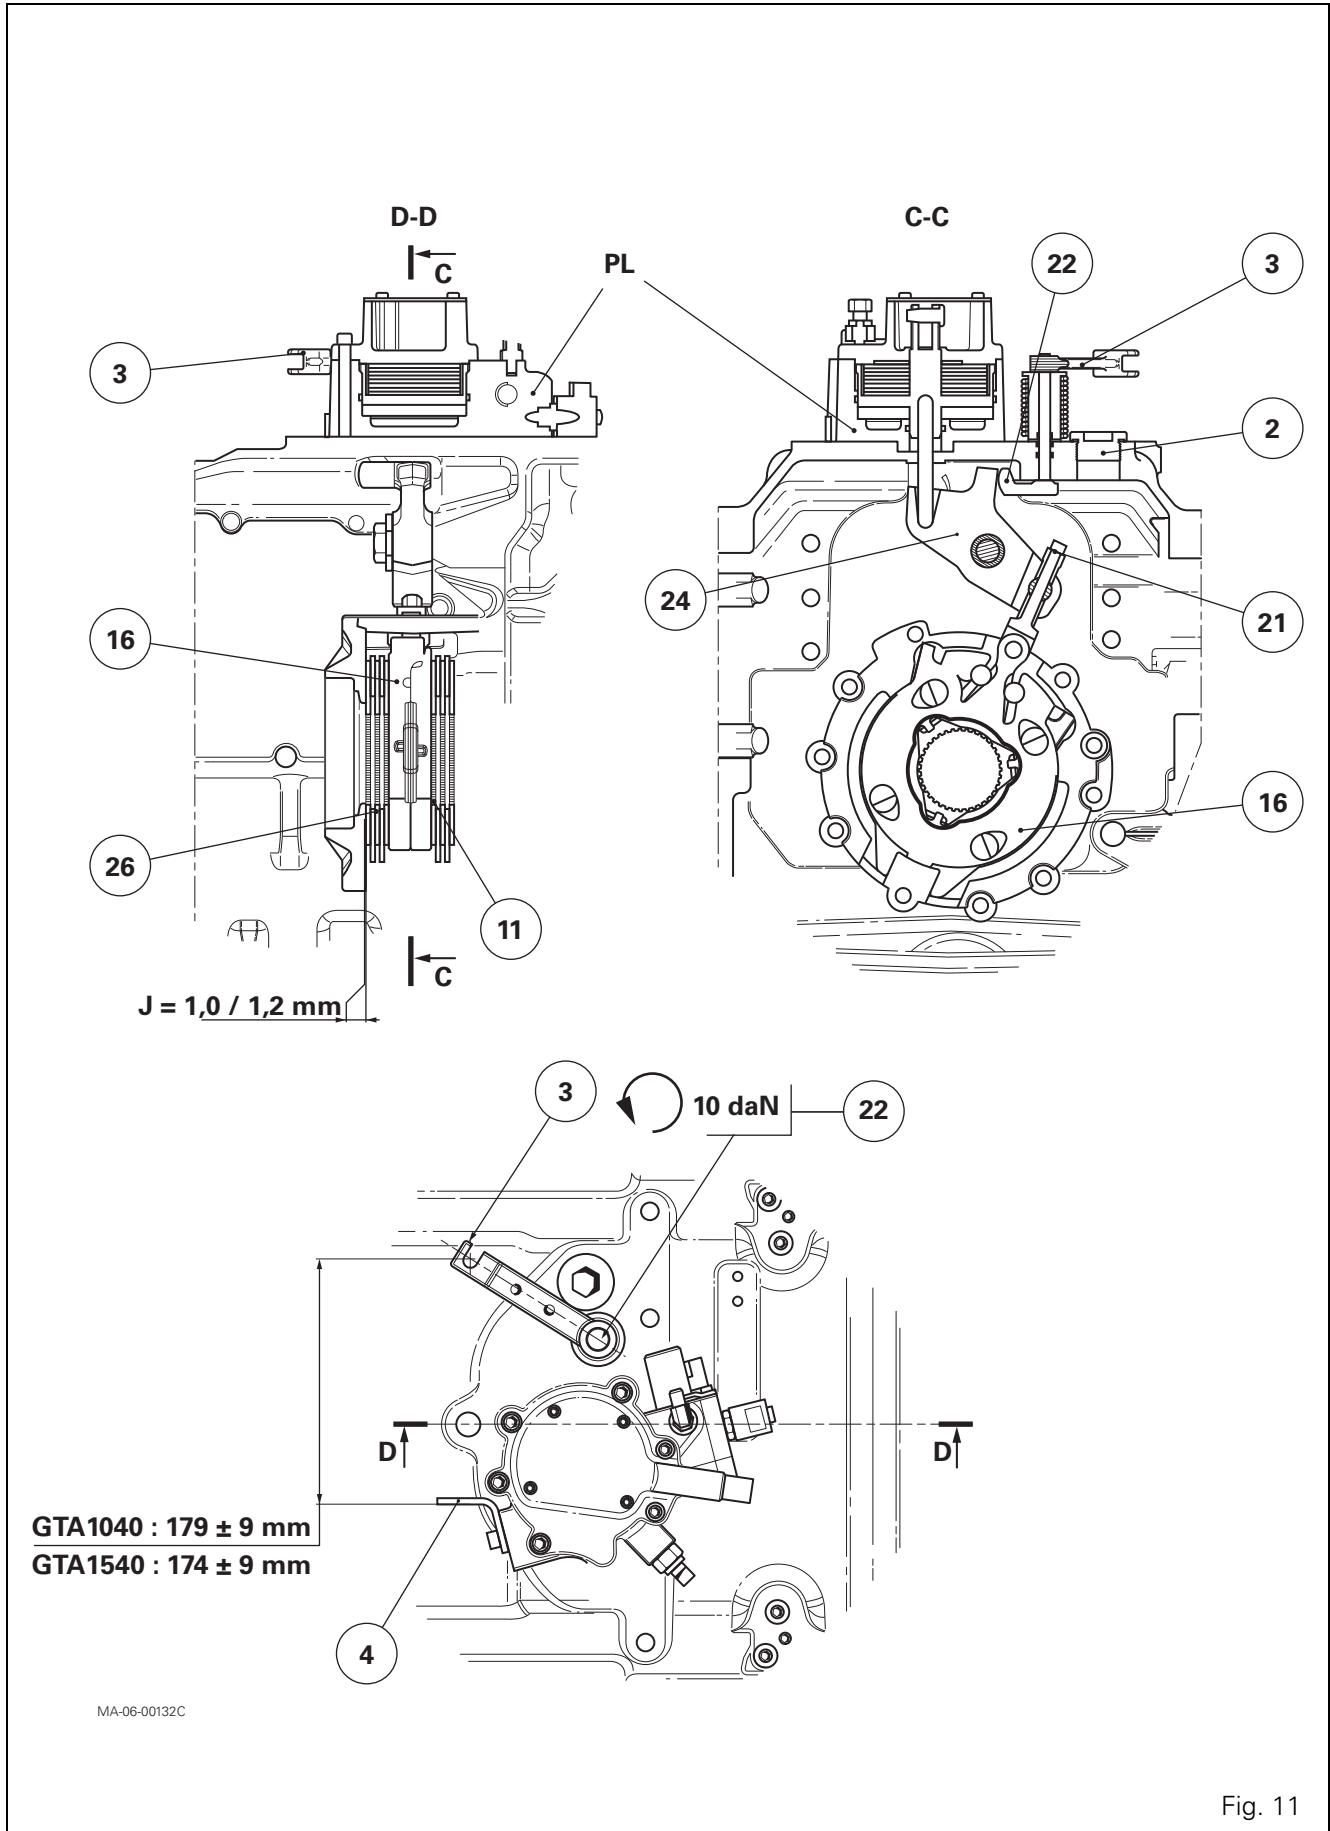

Fig. 11
Version with ParkLock device (Fig. 11)
44. Before adjusting the mechanism (16) on tractors fitted with a ParkLock device (PL, Fig. 11), neutralise the force exerted by the Belleville washers on this mechanism. To do this, turn the ParkLock special screw clockwise until tight (see chapter 9).
45. Temporarily remove the cam (22) from the actuator lever (24).
46. Using shims, adjust the mechanism (16) by turning the nut (21) to obtain clearance J of 1.0 to 1.2 mm between the discs (11) and the intermediate plates (26) on either side of the mechanism.
49. Before adjusting the hand brake control on tractors fitted with a "PL" ParkLock device (Fig. 11), neutralise the force exerted by the Belleville washers on this mechanism. To do this, turn the ParkLock special screw clockwise until tight (see chapter 9).